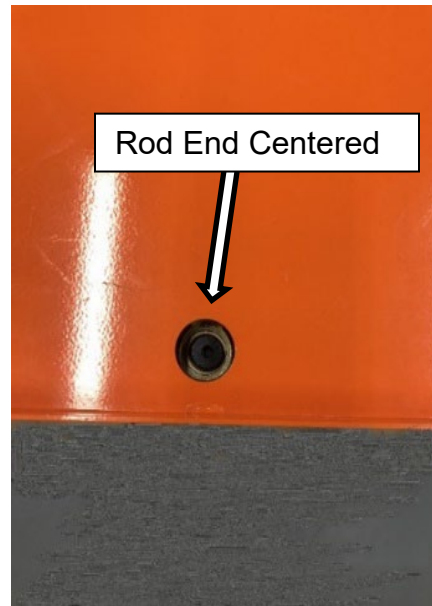

Figure 15. Socket Head Bolt Centered
- c. Position the Home Sensor directly beneath the center of the Crank Arm (Figure 15).